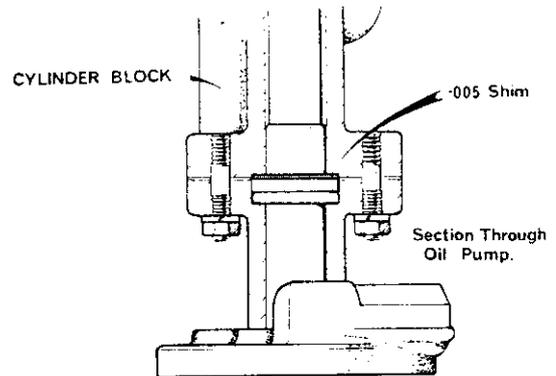

Figure 7 Oil pump drive shaft shims
7. Inspect the oil pump and drive shaft assemblies for wear or damage and renew if required. Note: In production, it has sometimes been necessary to fit one or two 0.127 mm (0.005 in) shims between the oil pump driveshaft bush and the cylinder block (Figure 7). It is not necessary when dismantling the pump to remove the drive bush or shim, if fitted. However, if the bush and shim are removed, it is essential that they are both replaced when re-assembling. Failure to do this will allow excessive end float of the distributor driveshaft resulting in poor meshing of the oil pump drive gear with resultant engine noise. The backlash between camshaft gear and driveshaft gear should not exceed 0.0762 mm (0.003 in). Re-assemble in reverse order. Refit the pump to the block, ensuring that the engine is set to TDC. When replacing the oil pump driveshaft ensure that the large "D" of the driving gear offset dog is facing towards the cylinder block with the slot aligned in a "5 minutes past 7 o'clock" position.